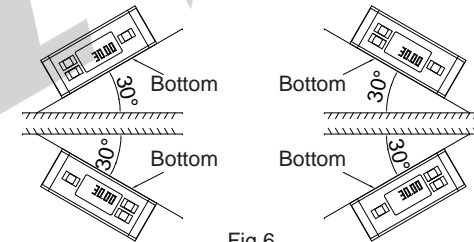

Fig.6
7. The instrument can use in 4-orientation, the display flips over when the bottom faces up(Fig.6).